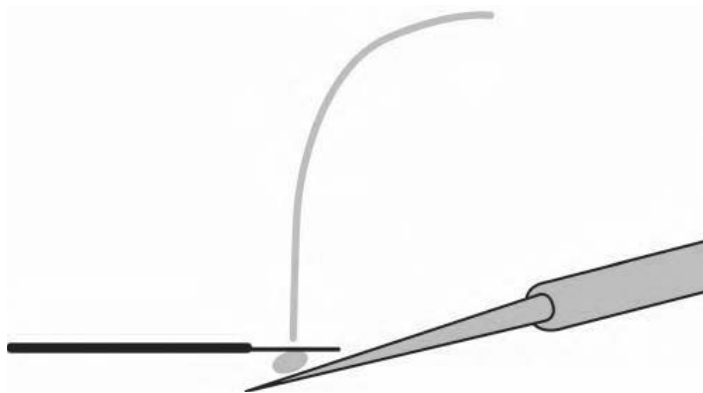

Figure 6.2 Tinning a wire.
4. "Tin" the wires. Melt a small blob of solder on the tip of the iron. Hold this blob against one of the wires. Hold the tip of the solder roll against the *wire*, not the iron. After about two to five seconds the wire should be hot enough that the solder will melt, flowing around the wire to coat it evenly in a smooth layer; if not, apply a *tiny* bit more solder to the tip of the iron and try again (see figure 6.2).